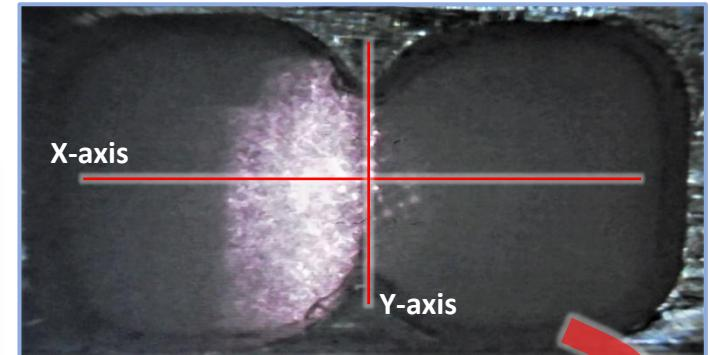

Figure 48 - L1 Beam Aligned on Center Line
10.4.4.4 Move and focus the second USB camera so that its field of capture is entirely on the backside of the fixture. The backside of the fixture must fill the full frame of the computer monitor. See Figure 48 as an example.
10.4.4.11 *L1 & L2 ALIGNMENT.* The goal is to make the laser beams as symmetrical as possible on the X-axis as seen on the desktop monitor. Small tic marks exist on the fixture screen as seen in Figure 48. These